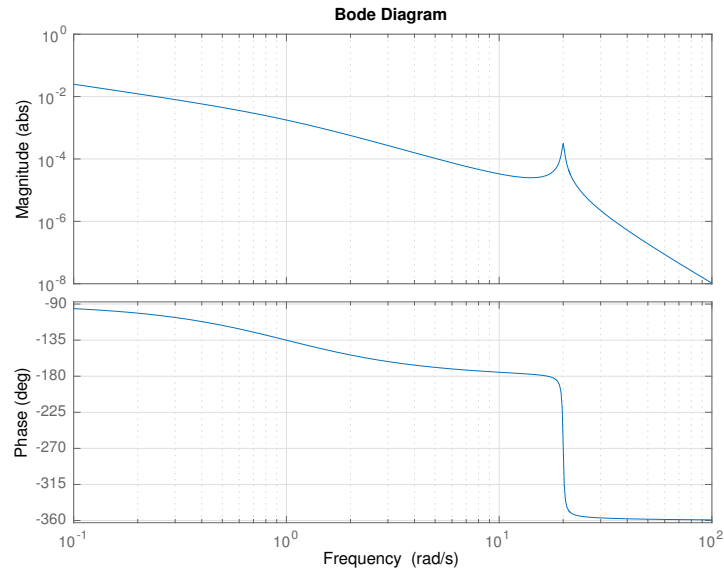

Figure 1 The Bode diagram of the system in problem 3
3. Due to your proficiency in control engineering, you have been hired to help with the design of a controller for a certain system. You remember that you have seen a similar system, for which the Bode diagram is shown in Figure 1, during your long years in school. Your employer cannot figure out why the P-controller that is currently being used is capable of making the system output follow constant references without any errors, but as soon as there is a load disturbance on the input, errors start showing up. Explain why this is the case. The previous employee tasked with developing the control system had also made plans to change the controller to a PI-controller and to increase the cutoff frequency to 5 rad/s. Explain why this likely is a bad idea, and give a modification suggestion that could improve the situation (no calculations needed, just paint a broad picture). (2 p)